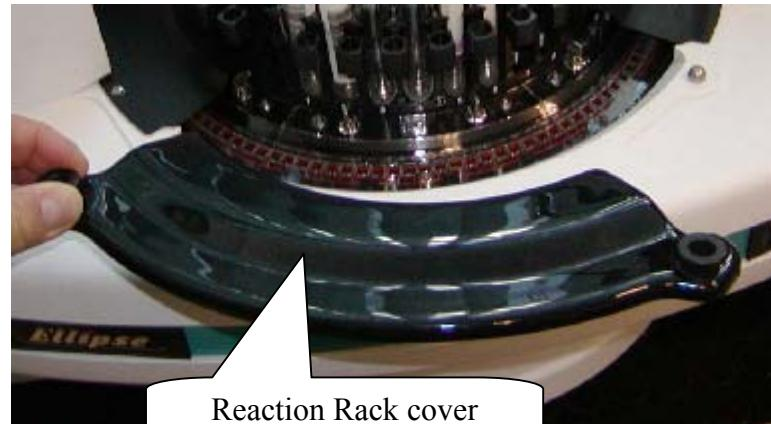

Fig. 1
3. A pull-down menu will appear. Click on the rack number 1 and then on **OK**, in order to have the selected rack accessible (Fig. 1)
4. Remove the reaction rack cover from its housing (Fig. 1).